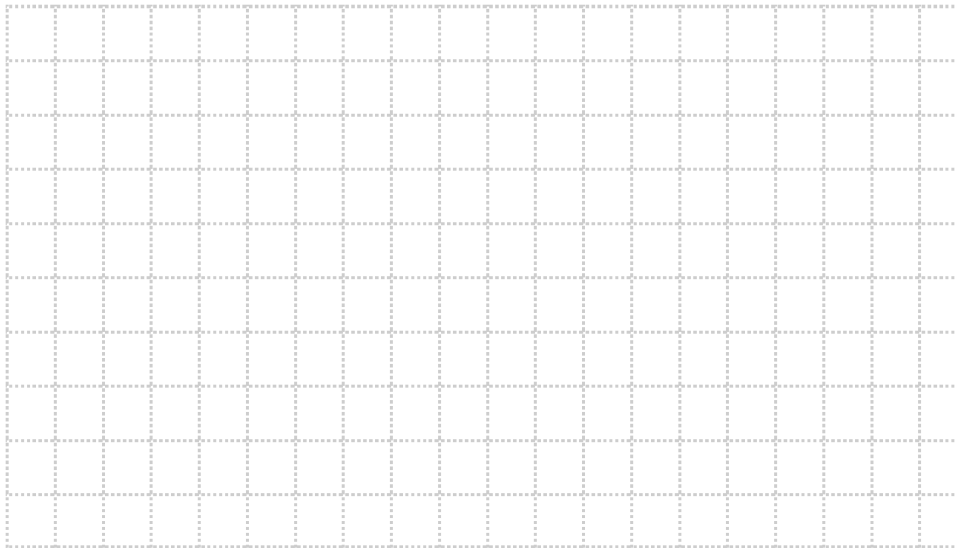

Figure 1-6. Flow rate versus speed curve.
- 14. Plot the flow rate versus speed curve in Figure 1-6.